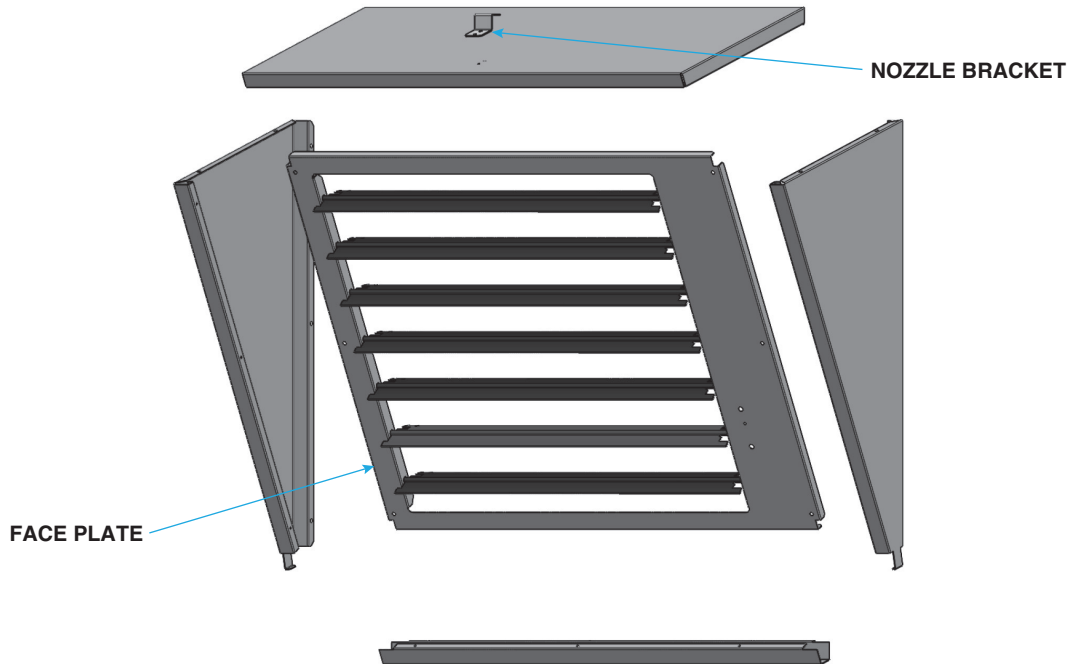

Figure 4. Hydronic Unit Heater Downturn Nozzle Assembly
3. Assemble downturn nozzle assembly (see Figure 4):
- a. Position frame against recessed black face plate on nozzle (see Figure 4).
- a. Position nozzle bracket on first nozzle as shown in Figure 4 and secure bracket using screws from kit.